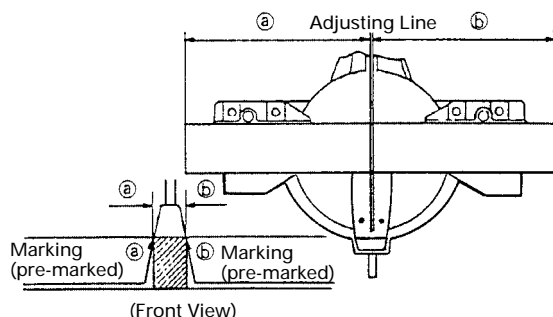

Fig. 23
- (1) As shown in Fig. 23 the width of the saw blade is the width of the cut. Therefore, slide the workpiece to the right (viewed from the operator's position) when length ⑥ is desired, or to the left when length ⑤ is desired.